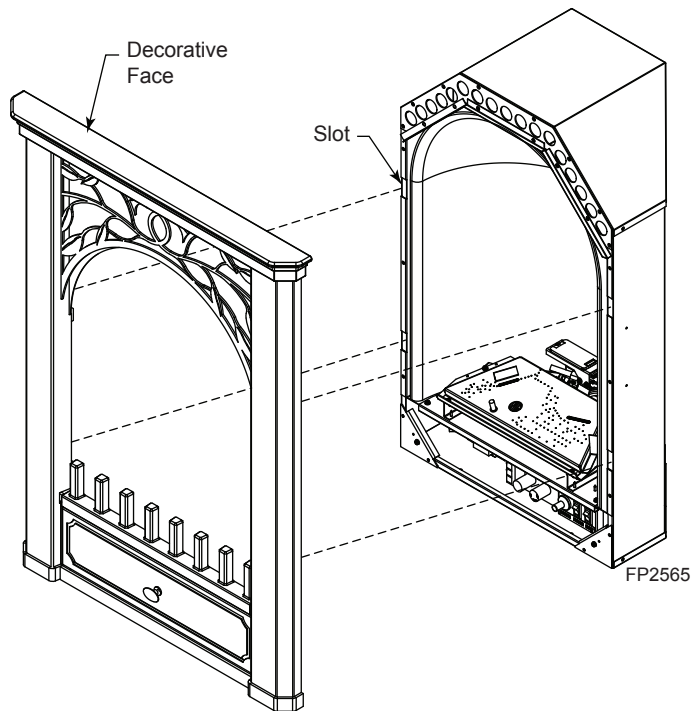

Figure 28
3. Place the four (4) hooked protrusions on the back of the face into the four (4) rectangular slots on the front of the unit. Two on each side. *Figure 28*